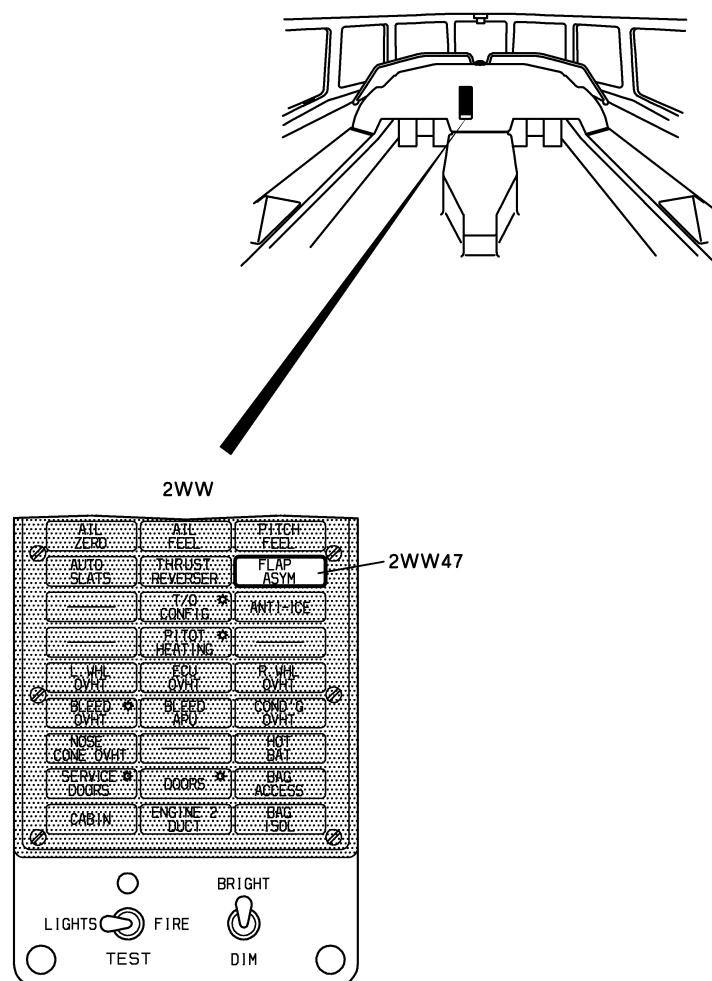
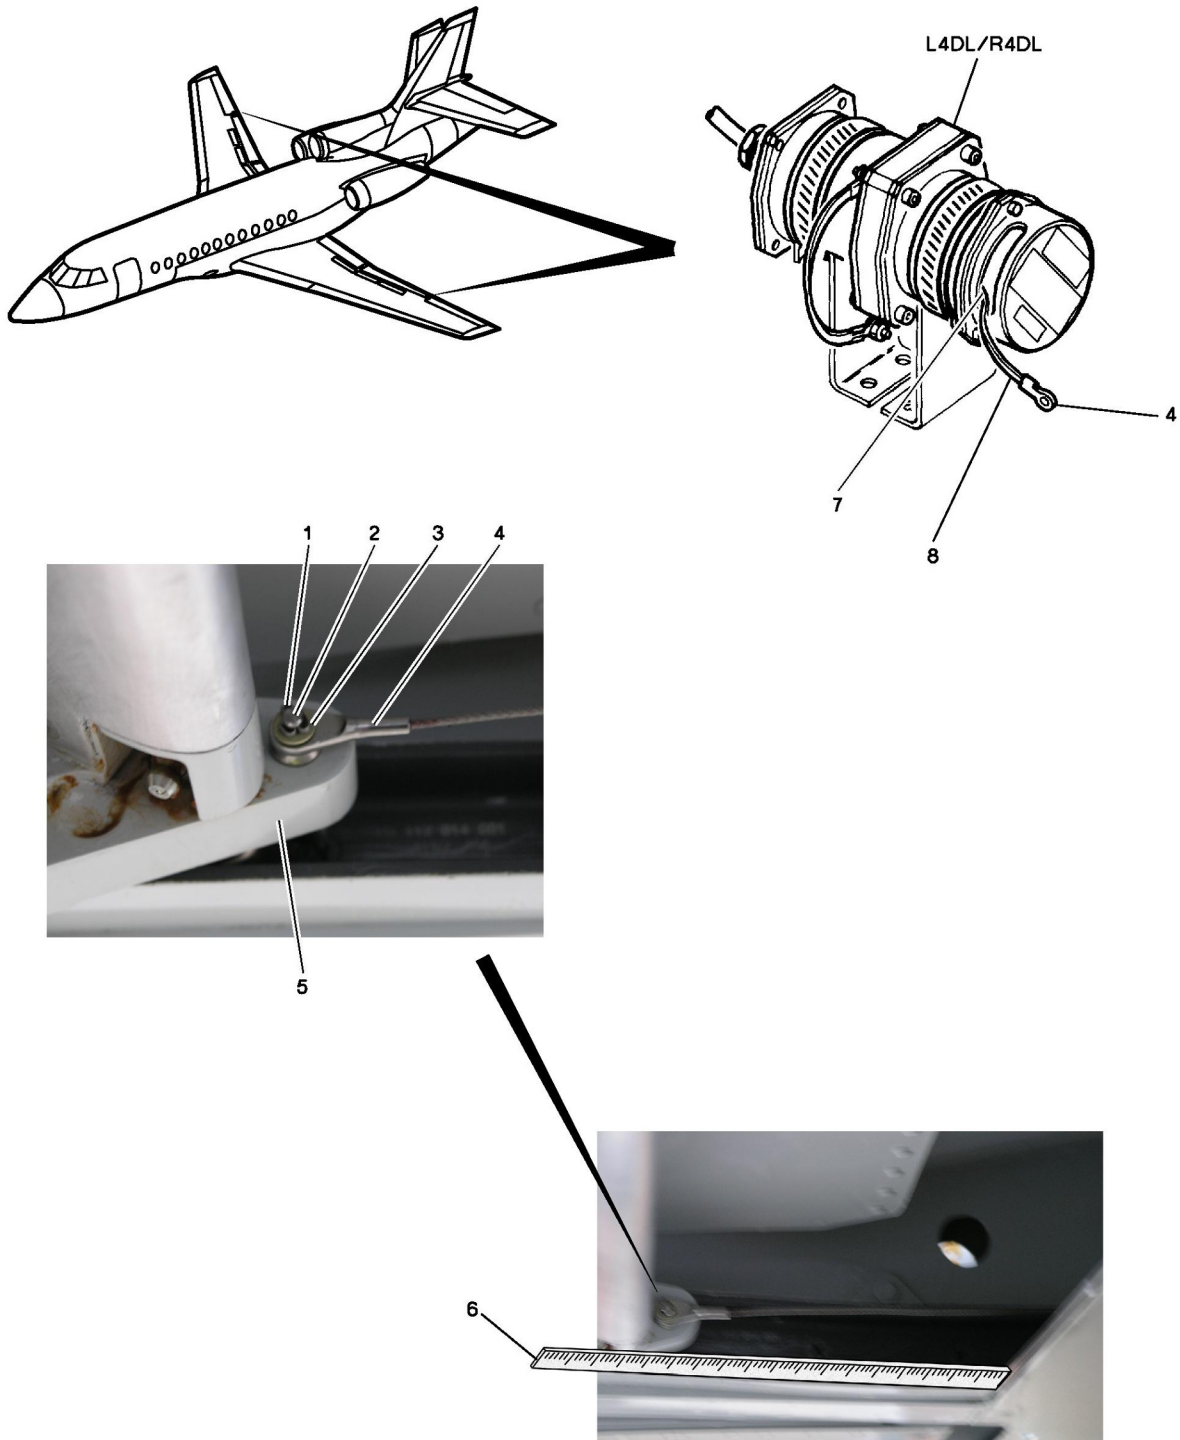

Figure 1: LOCATION OF COCKPIT CONTROLS AND INDICATIONS
Figure 2: REMOVAL/INSTALLATION OF CONTROL CABLES
Refer to **fig. 1** and **fig. 2**
- (1) On potentiometer cable (8)
- (a) Extract and discard cotter pin (1).
- (b) Remove washer (3).
- (c) Remove pivot pin (2) from flap clevis (5).
- (d) Maintain potentiometer cable (8).
- (e) Position a ruler (6) (**see fig. 2**).
- (2) Mark the original position of potentiometer cable (8) on ruler (6).
- (3) Slowly pull out potentiometer cable (8) until:
Refer to **fig. 1**